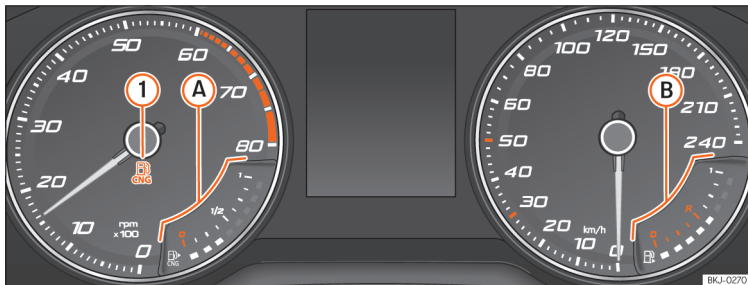

Fig. 70 Analogue instrument panel: natural gas gauge
It lights up green »» Fig. 70 ①